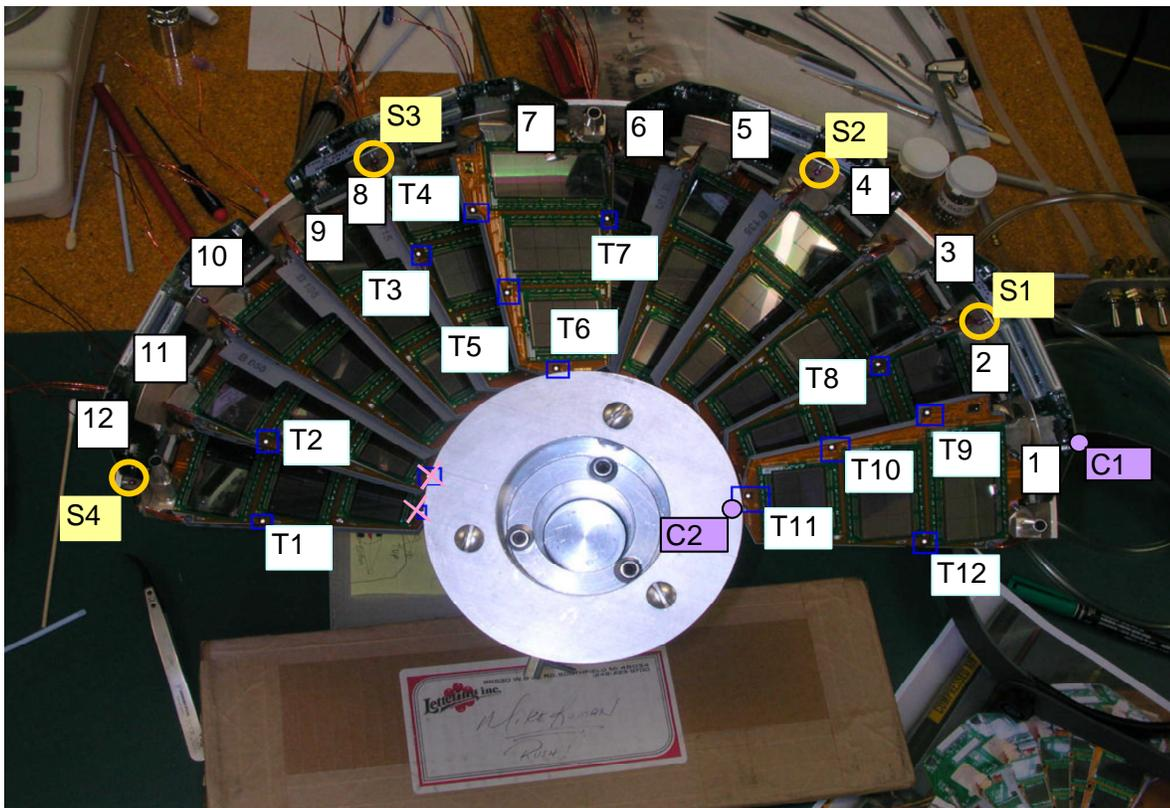

Fig. 1. 3-plaquette side of the half disk with panel numbers (1-12), survey starting points (C1,C2), survey balls (S1-S4) and photogrammetry targets (T1-T12)
The half disk photo is presented on Fig.1 with the main measured points shown.
2. Establish initial points on the half disk optically using two points on the outer and inner rings (C1 and C2 on Fig. 1) - not reported
3. Measure 4 out of 5 survey spheres on the outer half ring (S1- S4 on Fig. 1). The margins of 1-2 mm between the adapter board and touch probe as the spheres was measured. One board (at panels 10-12) tilted inside so the probe shaft touches it on the way to measure the sphere so it was skipped